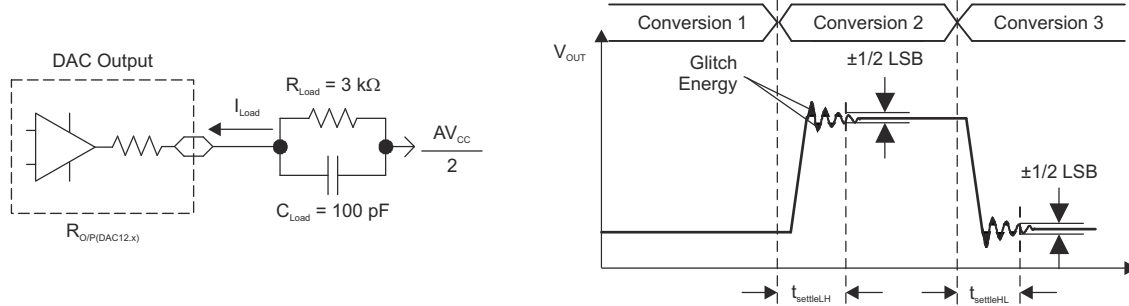
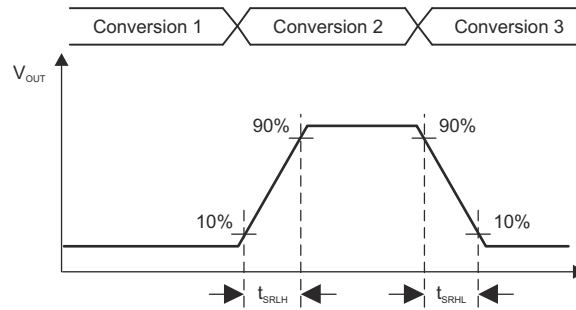

图 8-21. Settling Time and Glitch Energy Testing
图 8-22. Slew Rate Testing
V_{REF} = V_{CC}, DAC12IR = 1 (see 图 8-21 and 图 8-22), over recommended ranges of supply voltage and operating free-air temperature (unless otherwise noted)
(1) R_{Load} and C_{Load} connected to AV_{SS} (not AV_{CC}/2) in 图 8-21.
(2) Slew rate applies to output voltage steps ≥ 200 mV.